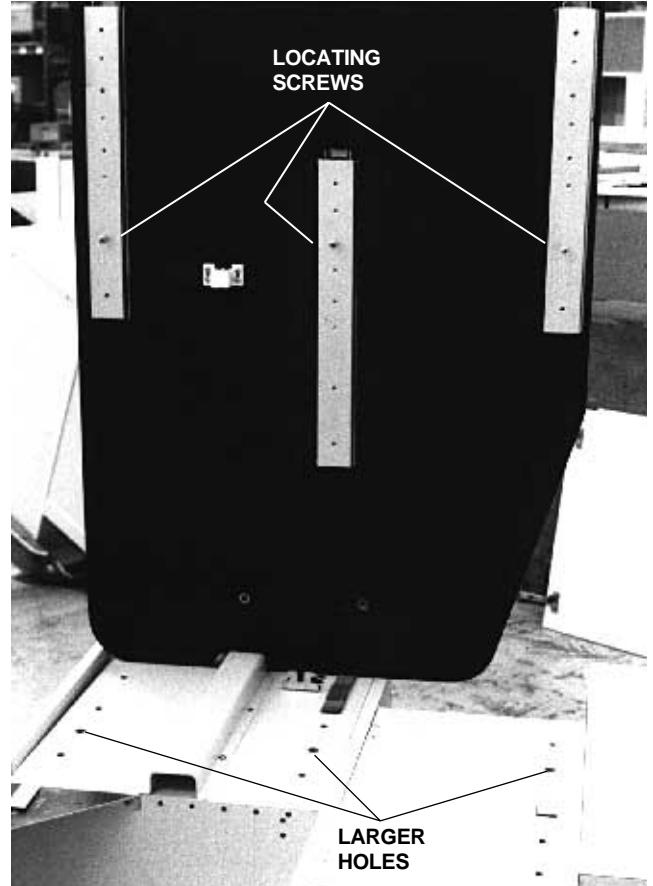

FIGURE 7
2. Identify the three larger holes in the lower module. These holes accept the heads of the three locating screws installed in the slides of the countertop (see Figure 7).